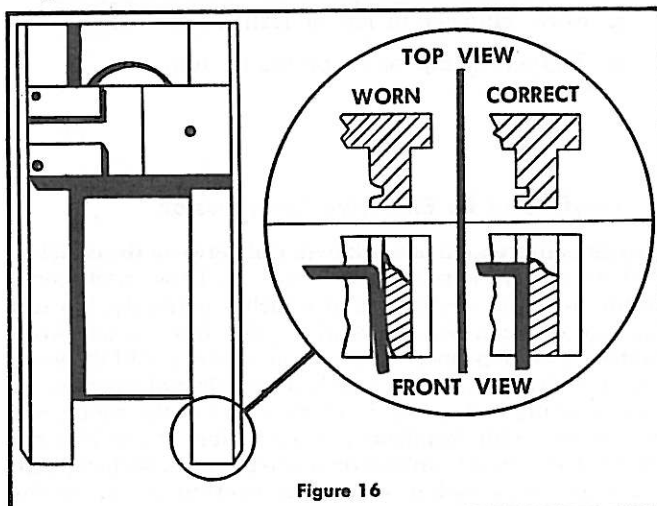

Figure 16
D. Bender Bar (Figure 16)
The bender bar bends the wire over the swivel and forms it into an unclined stitch. The legs of the stitch are guided towards the work material by the bender bar grooves. The legs of an unclined stitch should be perpendicular to the crown. When the bender bar grooves become worn, the legs tend to flare out (Figure 16) as they emerge from the grooves. This causes the legs to strike the clincher improperly. As a result, one or both legs will crumple and a broken driver bar or a broken bender bar can result. If the lower end of the bender bar groove becomes chipped, it will not support the wire and may cause the stitch to break at the crown.